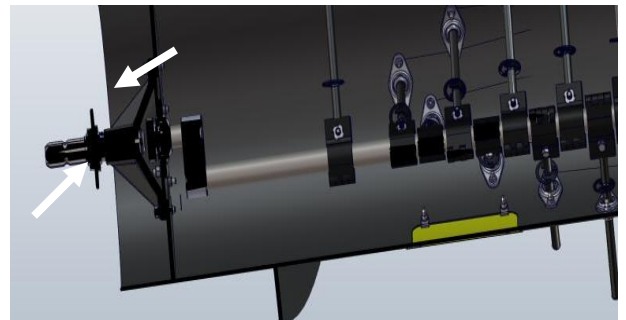

Figure 36
16. On the left end of the auger remove the shaft and spider assembly. Remove the lock collar on the bearing. Take the remaining two bolts out to the end disc pulling the disc out of the auger. This will allow the cross shaft to be pulled out of the auger. Figure 36 Note: 80-inch auger configuration shown.